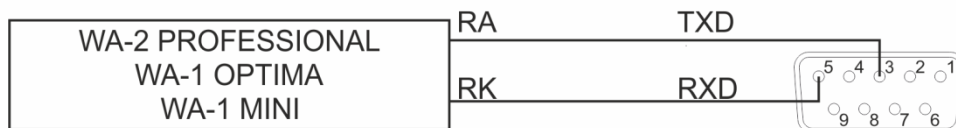

Fig. 3
Before configuring the display from RGB WagSet 2, connect it to a computer. The displays in the basic version should be connected to the RS232 port of the computer as shown in Fig. 3. The location of the RA and RK connectors of the remote display is shown in item 5 of this manual. The displays equipped with the Ethernet interface (option) should be connected to the RJ45 connector of the computer network card.